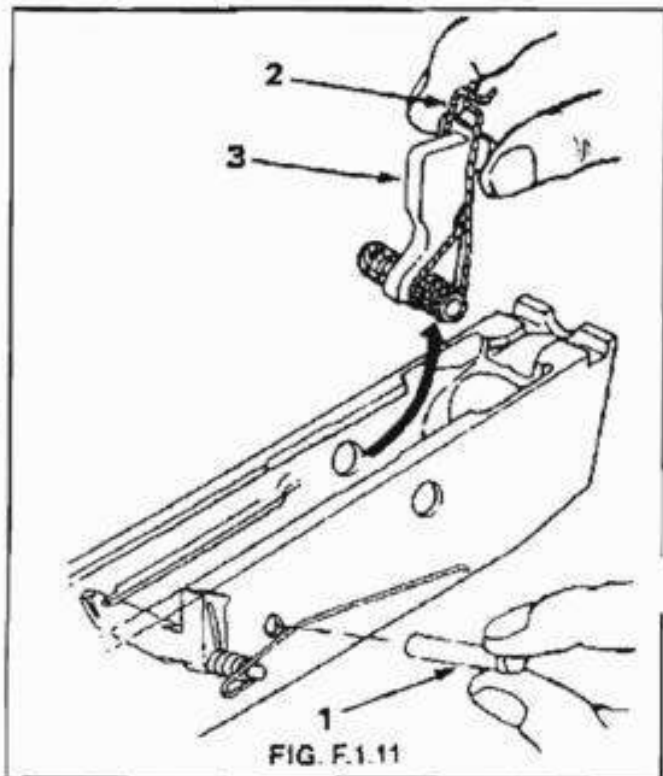

FIG. F.1.11
9. Withdraw hammer axis pin while disconnector spring is being pressed down. Remove the hammer complete with the hammer spring through the opening in the rear of the receiver. See Fig. F.1.11.